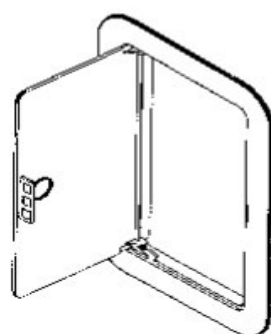

Fig.1
- To open the door, use a screw driver in the slot and lever up (Fig. 1)